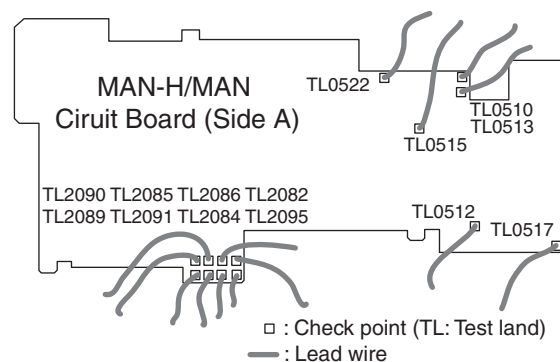

Fig. 4-7-2 Lead wire soldering
- 1) Solder a lead wire of approx. 10 cm to the check points (except for IC pins) on side A of MAN-H/MAN circuit board, referring to “4-7-1 Trouble diagnosis table” and “C-1 MAN-H/MAN” circuit board diagram. (See Fig. 4-7-2)